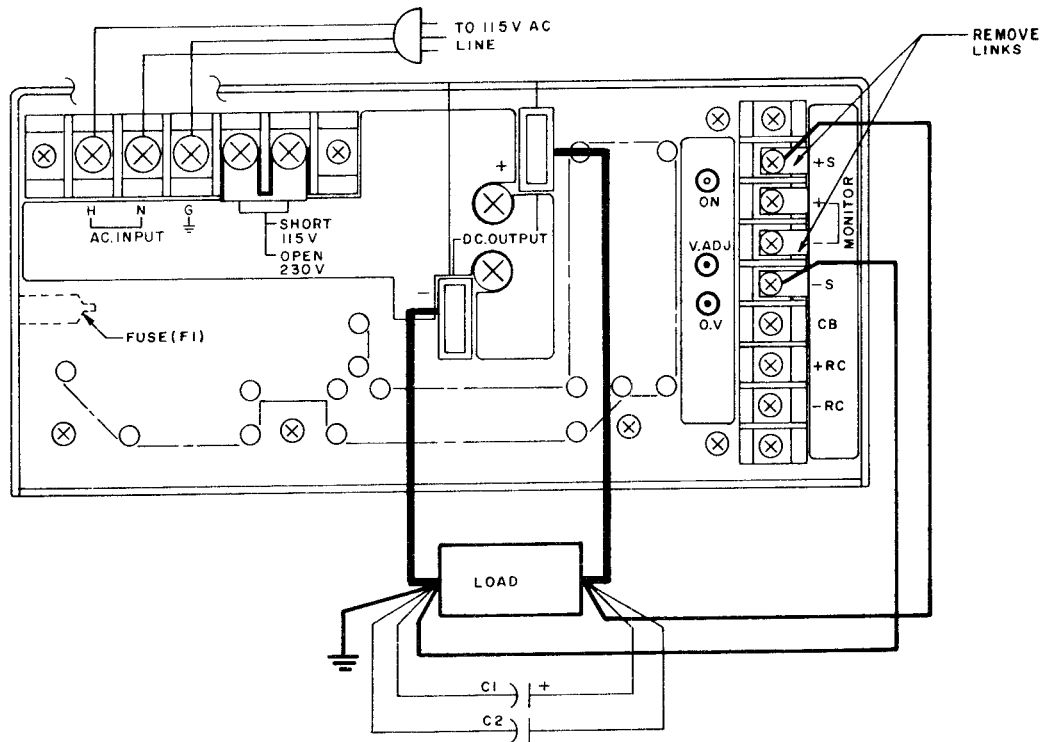

FIG. 3-1 LOAD CONNECTIONS, WITH ERROR SENSING, SINGLE RBX POWER SUPPLY.
- 3-2 Load connections to a single RBX power supply are illustrated in FIG. 3-1. The load is connected to the heavy-duty D-C OUTPUT bars. For most applications, remote error sensing is used as shown, to compensate for the voltage drop in the load-connecting wires or bus bars.
- 3-7 Most applications require the use of error sensing at the load (Refer to FIG. 3-1). To this end, the links between the \pm MONITOR terminals and the \pm SENSING terminals are removed and the \pm S terminals are connected directly at the load as shown. This technique compensates for load wire drops up to 0.35V per load lead. Sensing wire pairs should be tightly twisted.
- 3-14 **GROUNDING THE OUTPUT CIRCUIT.** The specifications for ripple and noise, given in Section I, paragraph 1-7, apply at the power supply output terminals, with one output terminal grounded. For minimum ripple and noise at the load, careful selection of a common ground point is required. **There must be only a single ground point in the load circuit.** Multiple ground points result in ground loops which may cause greatly increased ripple and noise at the load. Often, an additional filter may be required directly at the load terminals (Refer to FIG. 3-1, $C1 = 50\mu\text{F}$, electrolytic type, $C2 = 0.1\mu\text{F}$, Film Type) as a low/high frequency by-pass.